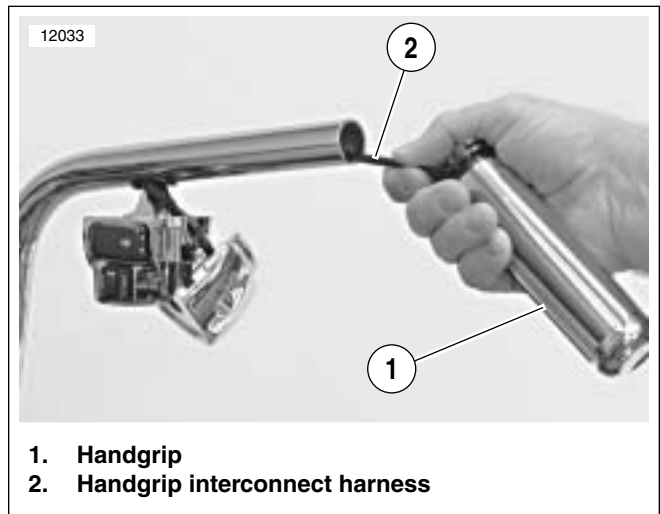

Figure 2-29. Replacing Right Side Heated Handgrip (Handlebar Removed from Vehicle for Clarity)
- See Figure 2-29. Note that handgrip interconnect harness (2) feeds from extreme end of handlebar.
8. See Figure 2-29. Slide handgrip (1) off end of handlebar. Grasp handgrip interconnect harness (2) and gently pull harness from handlebar. Only pull far enough so that harness is completely free of handlebar. Make sure free end of wire leader is still protruding from center hole in handlebar.